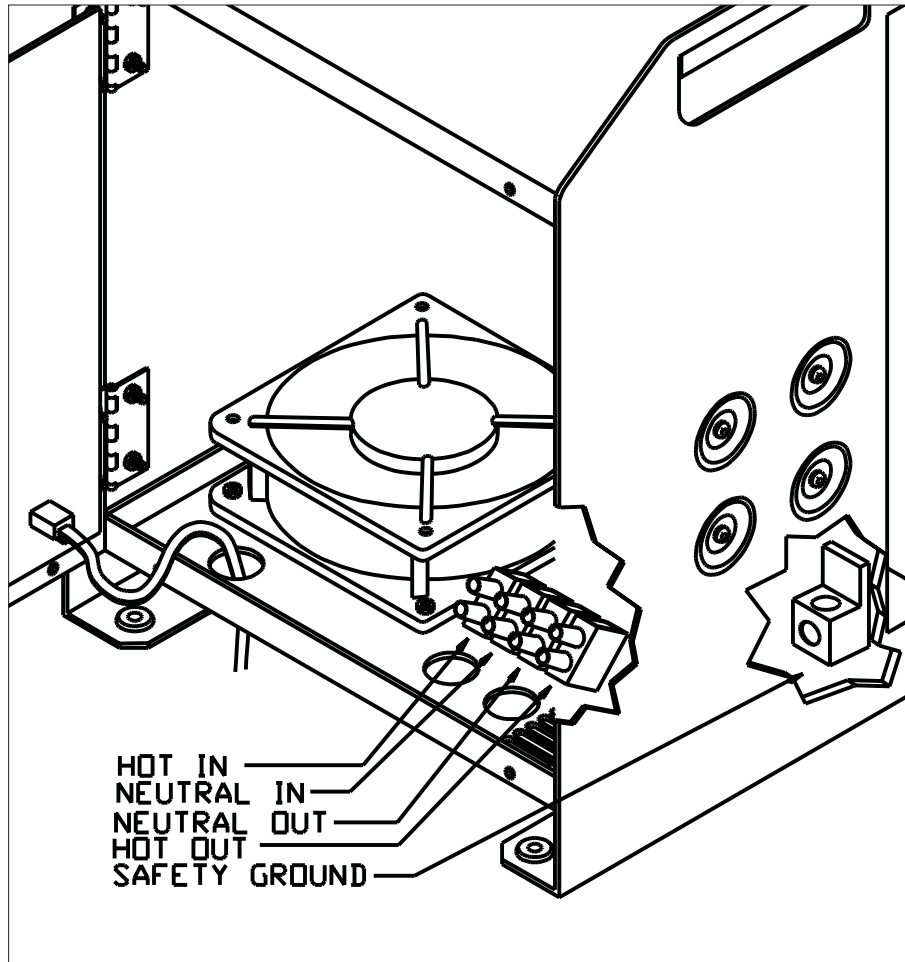

Figure 6, AC Wiring Hookup
Step 3 - Feed the wires thru the bottom of the inverter. See Figure 6.